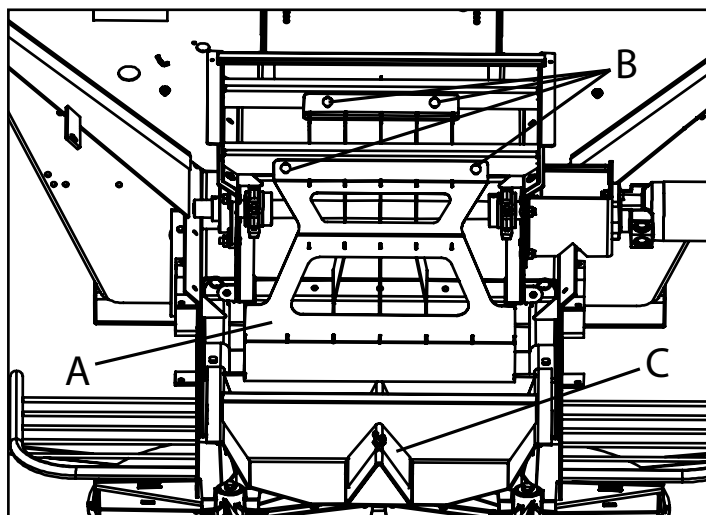

Figure 19 - MULTAPPLIER Hillside Divider
Loosen hardware from rear two chain shield holes on each side of MULTAPPLIER. Install MULTAPPLIER Hillside Divider (A) and fasten to Support using single bin Hillside Divider hardware removed before MULTAPPLIER installation (B). Adjust Hillside Divider so that the middle divider is centered over both conveyors and the Material Divider (C) as shown in Figure 19. Tighten all hardware to recommended torque.